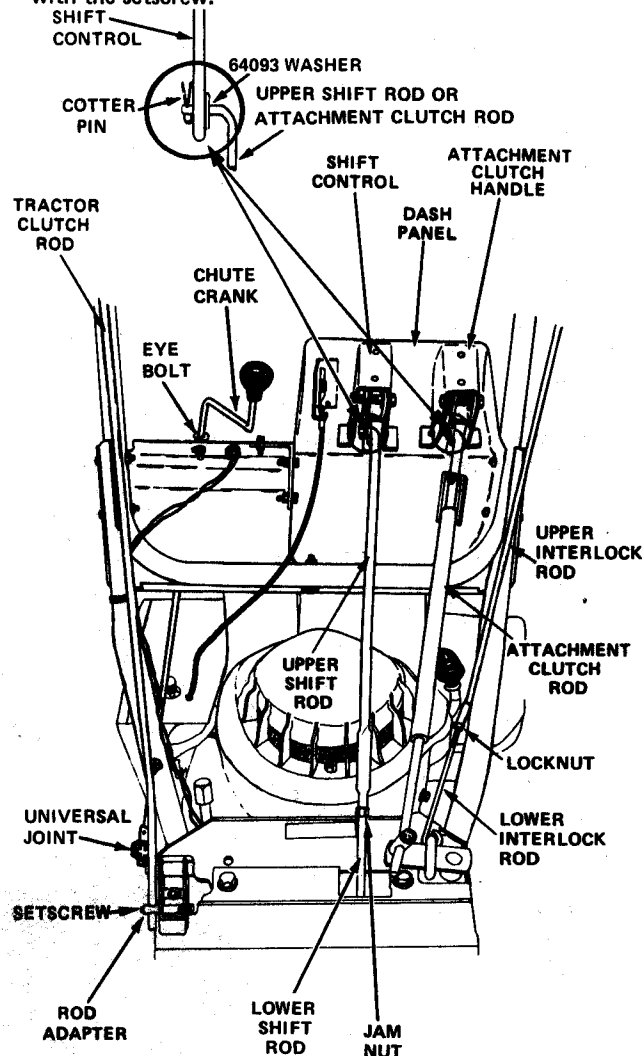

FIGURE 2
- Place a .380" washer (64093) on the end of the shift rod, insert the rod into the UPPER hole in the handle, and secure with a cotter pin 1/8 x 1/2" (67018). See Figure 2.